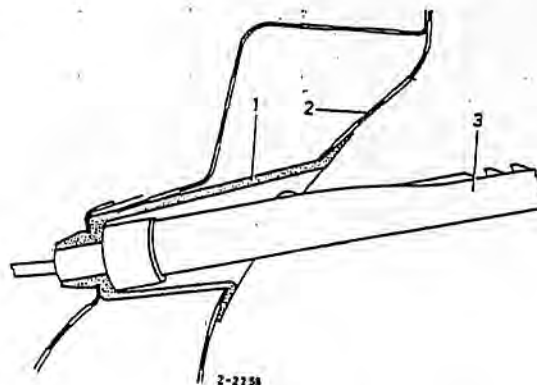

Fig. 42-18/3
- Push the rubber sleeve (1) over the guide tube (3) (Fig. 42-18/3).